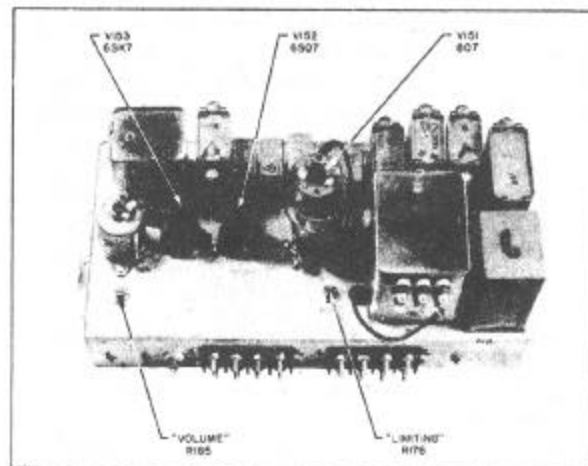

Figure 1-5—Modulator Unit
**f. Modulator.**—The modulator or audio amplifier unit is constructed on a single chassis as shown in Fig. 1-5. This unit bolts to the lower deck of the transmitter unit and is located directly behind the relay door. This provides easy access to the tubes for servicing. The complete unit may be removed by removing six bolts which